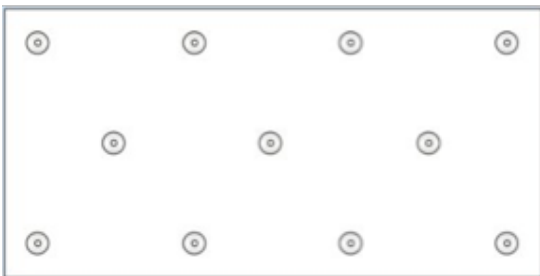
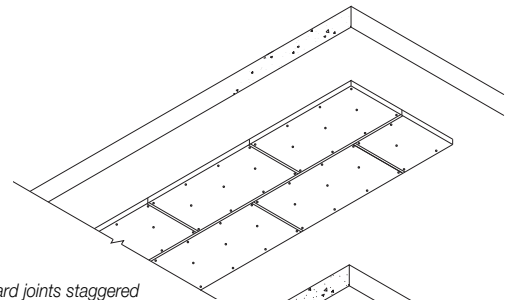
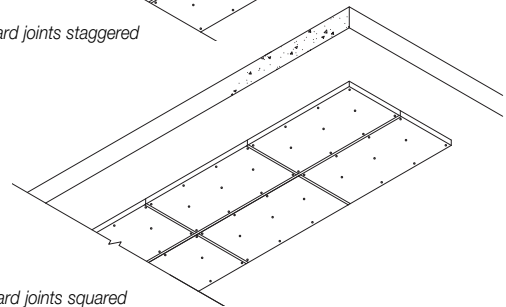

Figure 3 Fastener pattern (11 No. per board)
Figure 5 Board joints staggered
Figure 6 Board joints squared
2. Board joints can be either staggered (see Figure 5) or squared (see Figure 6) and taped with 96 mm wide silver *Kingspan Insulation Tape*. 4 No. fasteners along each length - no less than 50 mm - no more than 150 mm from edge of board, 3 No. fasteners along the middle (offset from edge positions as per diagram Figure 3).